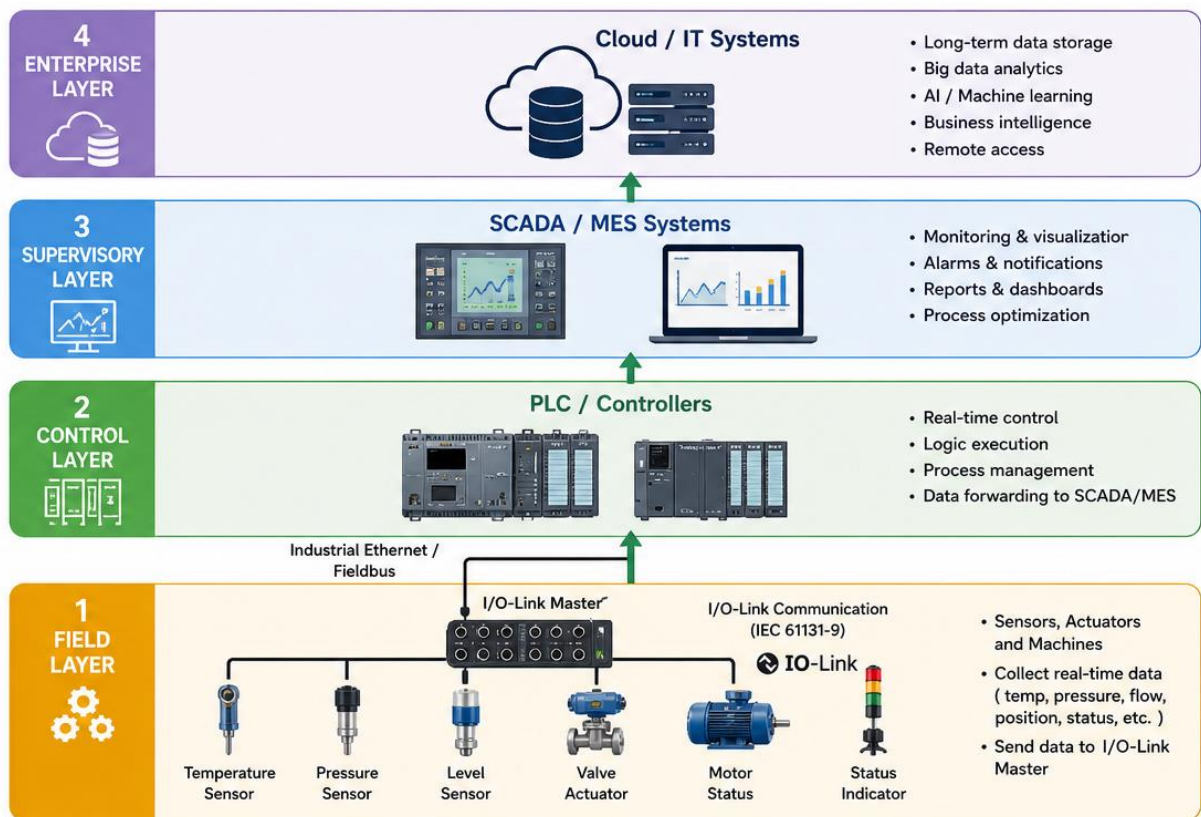

Fig.3.28: Integration of Industrial Devices into IIOT Networks Using I/O-Link Systems
B) Layered Network Integration (Fig.3.28)